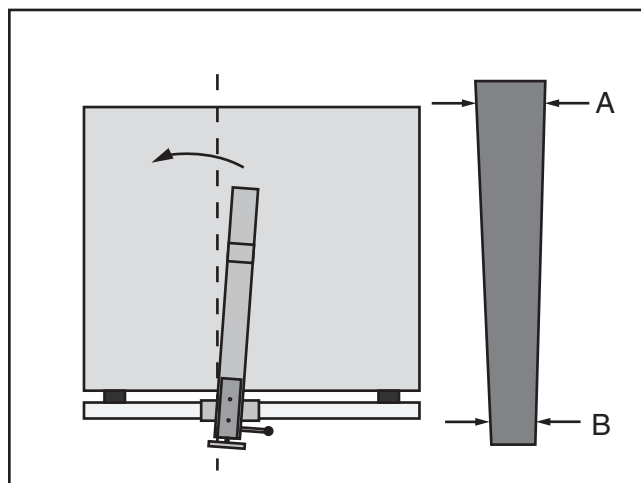

Figure 34. Adjusting the fence to the left.
- If end A is wider than end B, then the tip of the fence needs to be adjusted to the left to make the fence parallel to the blade (**Figure 34**).